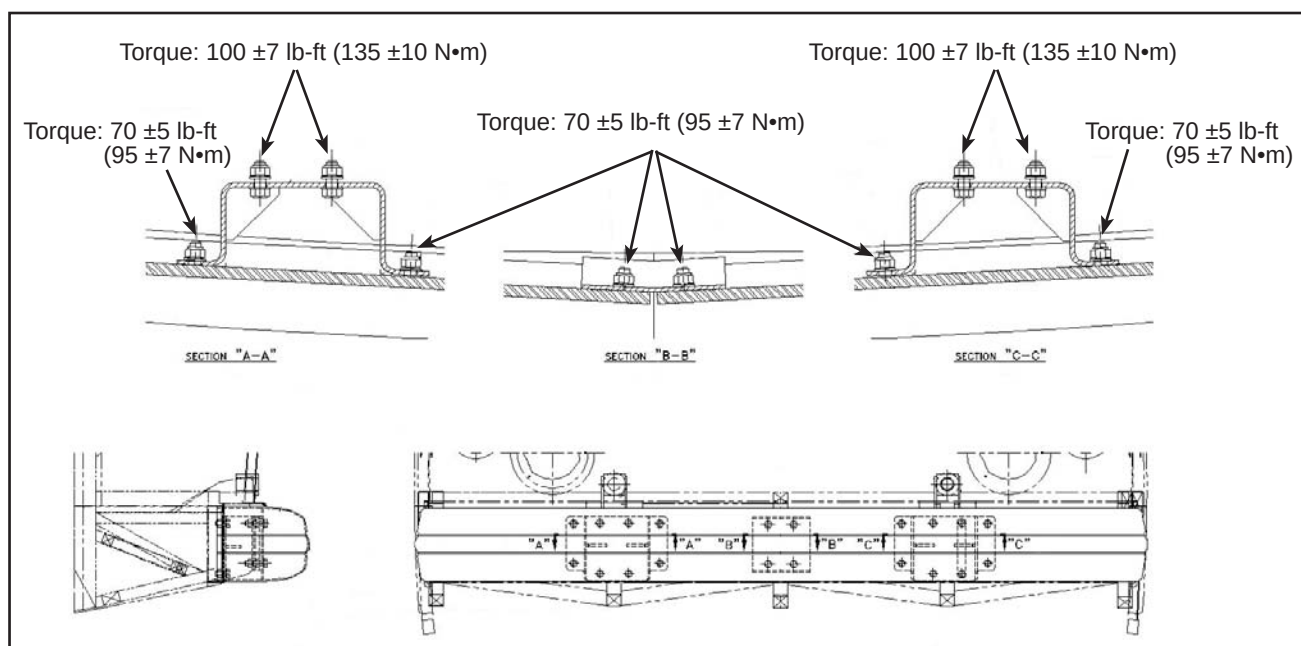

Figure 1 - Front Bumper Mounting Bolts Location and Torque
- 1.2. Remove only one of the twenty bolts from the front bumper. Retain the hardware. See Figure 1.
1.4. Re-install the retained hardware. Torque to the specified value. See Figure 1.